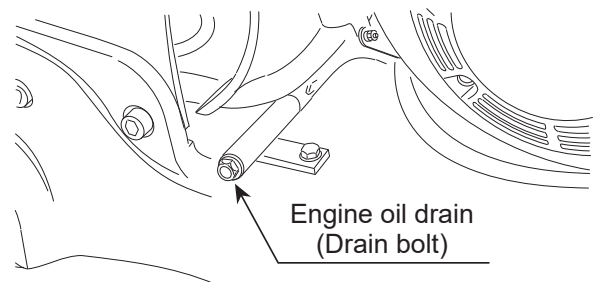

Fig.26
- Perform the first engine oil change after 20 hours of operation, then change at every 100 hours.(Fig.26)